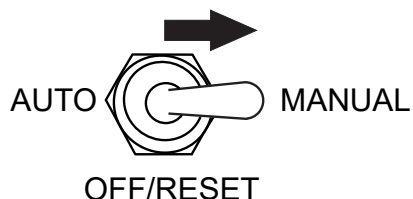

Figure 103. Auto Start/Stop Switch
2. While keeping the **Hour Check button** pressed, place the **Auto Start/Stop switch** (Figure 103) in the **MANUAL** position.